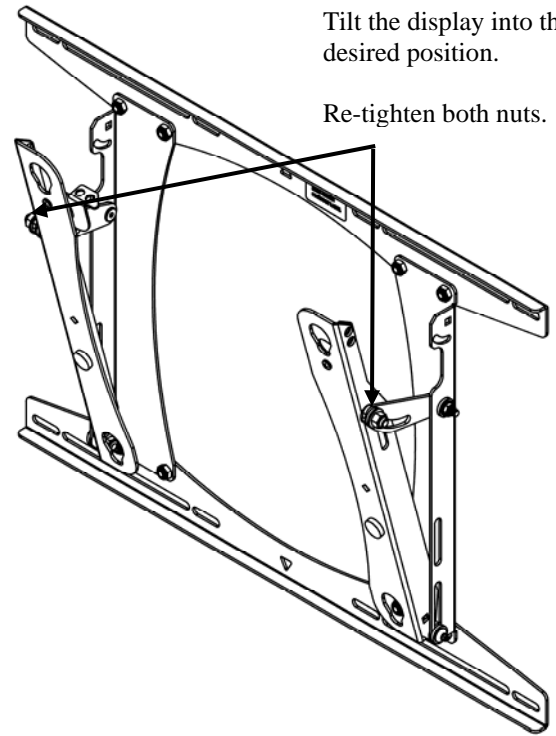

Figure 10. Tilt Adjustment
1. Using 1/2" socket wrench, loosen the silver zinc nut (see Figure 10) on both arms of the mount.